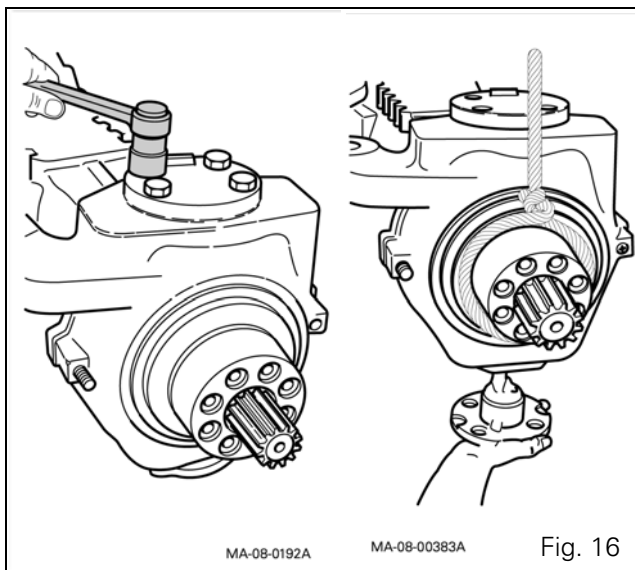

Fig. 16
16. Loosen and remove the screws from the upper and lower pivot pins (Fig. 16).